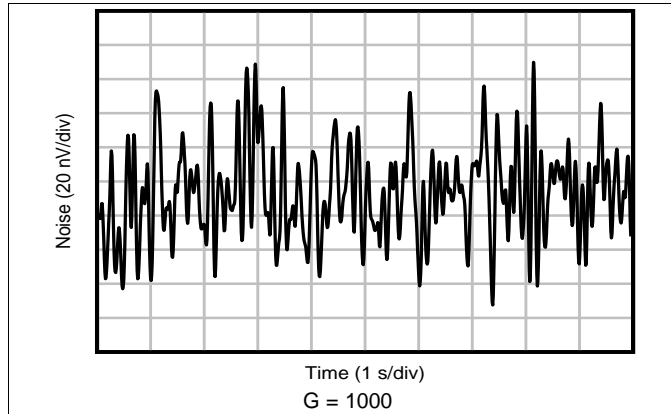

Figure 25. 0.1-Hz to 10-Hz RTI Voltage Noise  $G = 1000$
0.1-Hz to 10-Hz RTI Voltage Noise $G = 1000$	<a href="#">Figure 25</a>